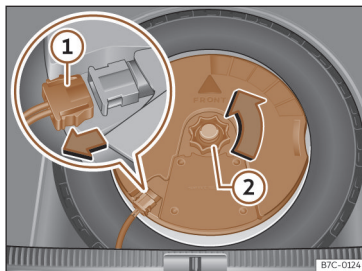

Fig. 209 In the luggage compartment: remove the subwoofer.
- Disconnect the *subwoofer*»» **Fig. 209** ① speaker cable.
- Turn the securing wheel in an anti-clockwise direction»» **Fig. 209** ②.